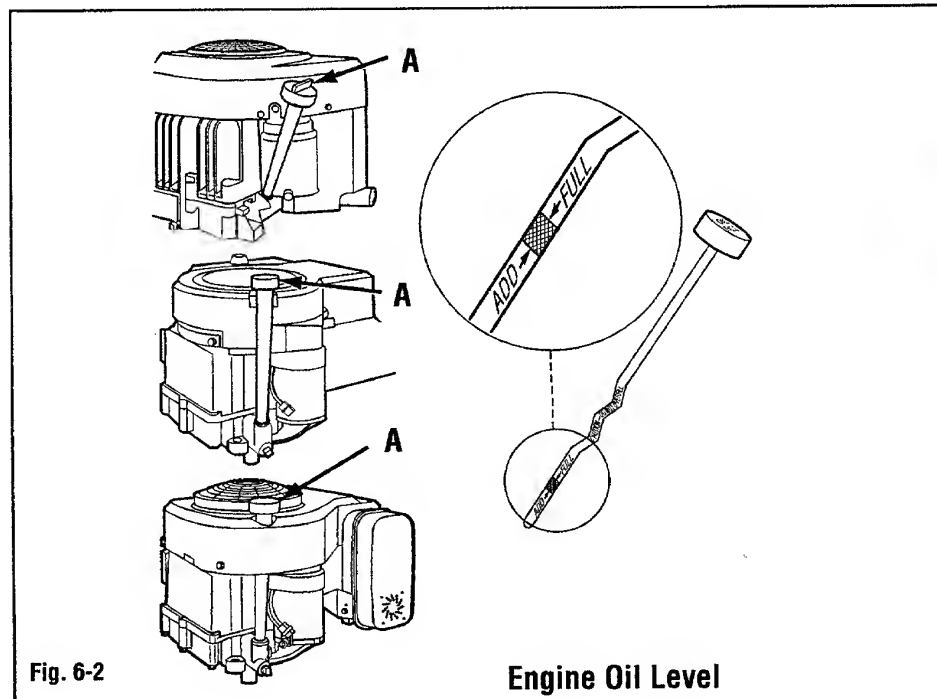

Fig. 6-2
Clean area around dipstick (A, Fig. 6-2) so dirt does not fall into crankcase when dipstick is removed.
**ADD OIL:** Remove oil fill cap (A, Fig. 6-2) and add oil.